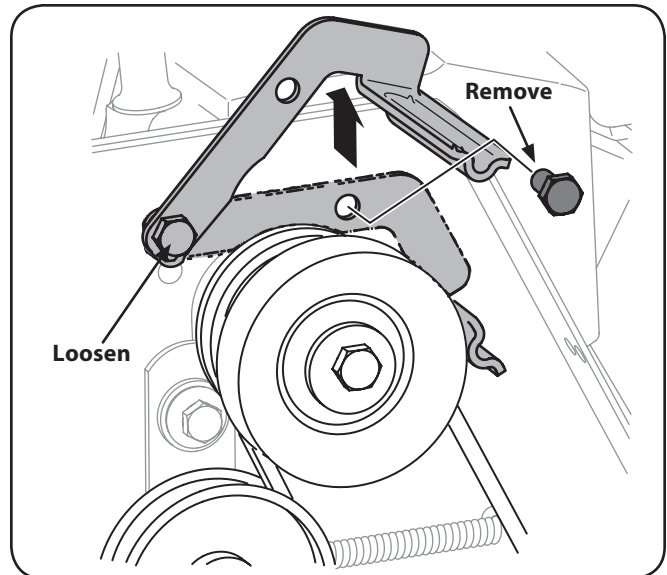
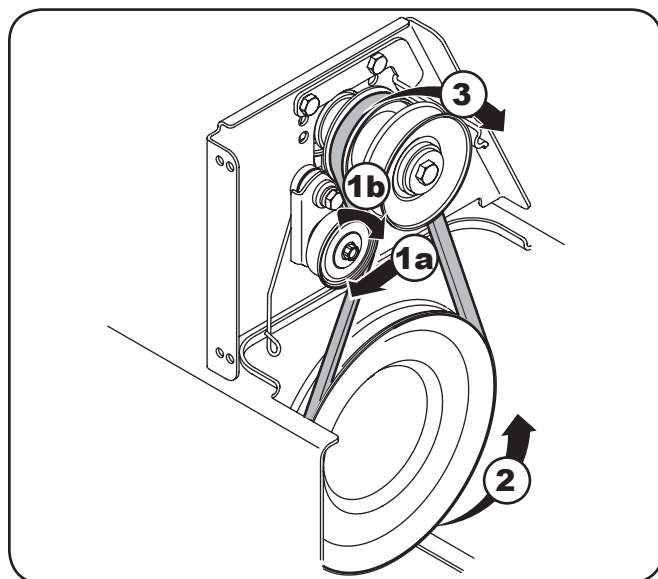

Figure 7-3
Figure 7-8
3. Loosen the bolt shown in Figure 7-3 securing the belt keeper bracket and remove the other bolt. Push the belt keeper bracket up off the engine pulley. See Figure 7-3.
1. Use a wrench to rotate the idler pulley away from the backside of the drive belt and pivot the belt keeper up (Figure 7-3) to relieve the tension and slip the drive belt off the idler pulley. Carefully release the idler pulley. See Figure 7-8.